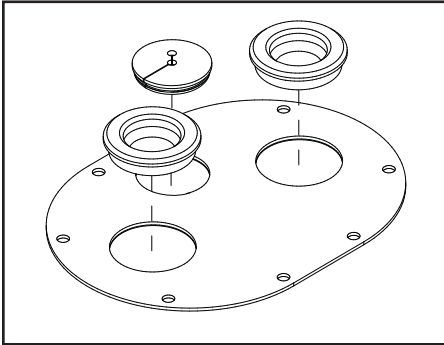

Figure 2: Attach Seals to Tank Lid
- Insert seals into the holes in the lid as shown in Figure 2.